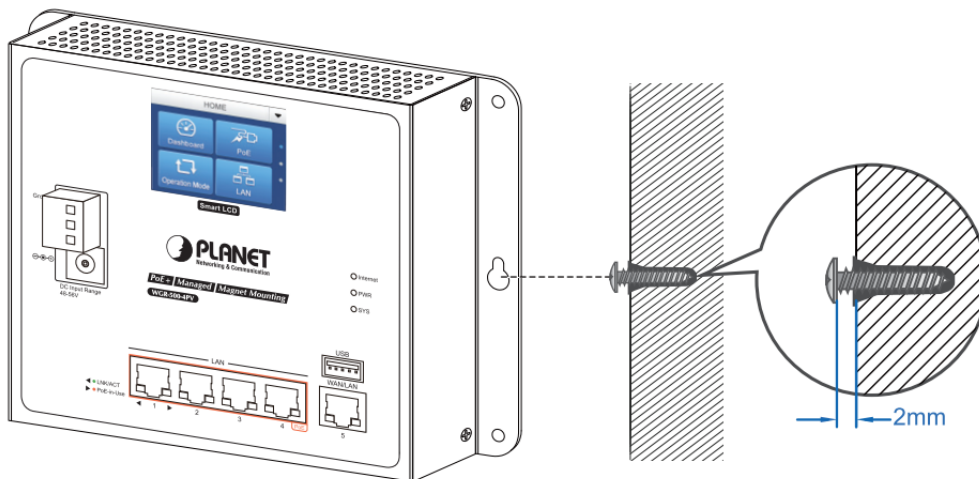

Figure 2-13: Router is hung on the wall
Step 3-2: Insert screws into the wall anchors, leaving 2mm of each screw exposed. Place the wall-mount slots over the screws and slide the device down until the screws fit snugly into the wall-mount slots. The industry router can be hung on the wall as shown in Figure 2-13.